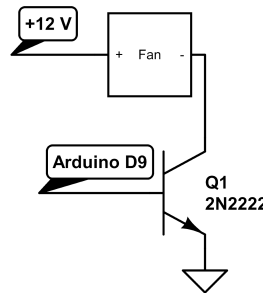

Fig 3 The transistor switch for driving a 12 V fan from the Arduino uC.
- Now you will need a way to effect the state of the temperature probe. A small 5-12 V DC fan will work perfectly. The positive lead can be connected directly to the Arduino pin 9, and the negative lead grounded. If the 5 V output of the Arduino is not sufficient to drive the fan a transistor switch can be used as shown in fig. 3. **If you use this circuit make absolutely sure that the 12 V power supply remains isolated from the Arduino pins.**